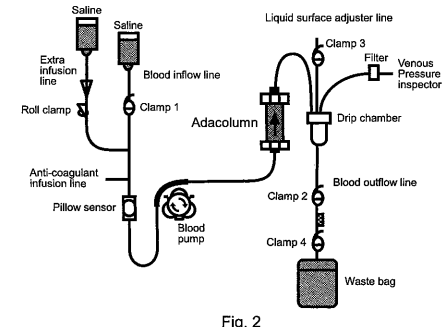

Fig. 2
- 2) Remove the cap from the red-colored end of Adacolumn and connect the blood inflow line firmly to the Adacolumn. Place Adacolumn into the column holder so that the red connection is facing downward. Remove the cap on the blue-colored exit of Adacolumn and connect the blood outflow line (Fig.2).